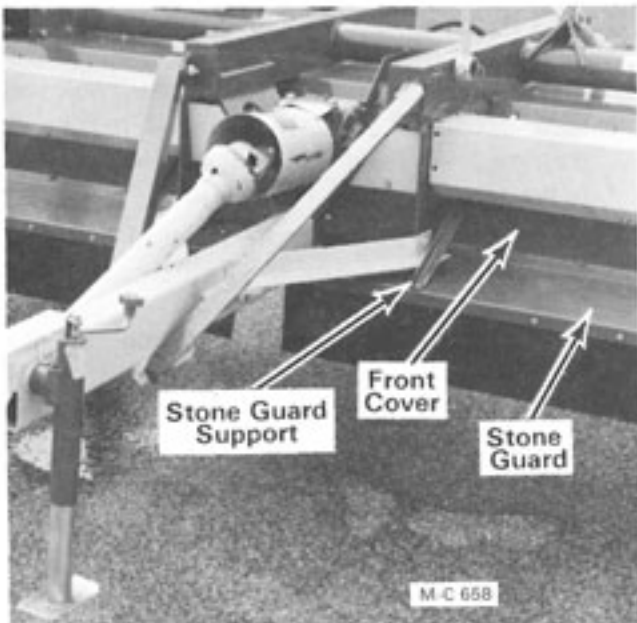

Figure 10 - Model 2408 Shown
4. Install the assembled stone guards to the Shredder front cover, see Figure 10 page 8. Use $\frac{3}{8}$ "-16 X 1" (Grade 5) hex-head capscrews, flatwashers and locknuts to secure the stone guard supports to the Shredder front cover. The flatwashers go under the locknuts. Use $\frac{3}{8}$ "-16 X $\frac{3}{4}$ " (Grade 5) hex-head capscrews and locknuts to secure the stone guards to the Shredder front cover.